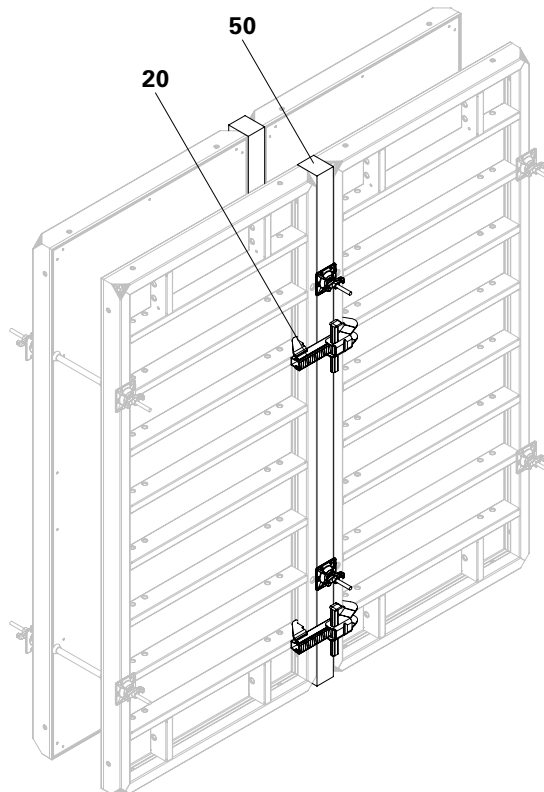

Fig. A11.01
Length compensation takes place using timber (50) which has been cut to size. (Fig. A11.01)
- Alignment Couplers BFD (20) are to be arranged as for standard panel joints.